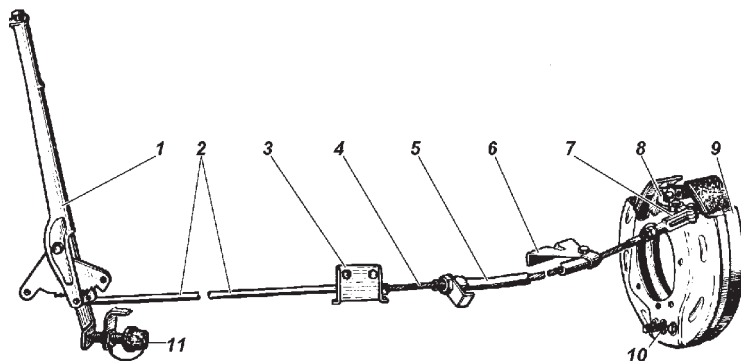

Fig. 9.34. Parking Brake Drive:
2. Move parking brake lever 1 (Fig. 9.34) into its extreme front position.